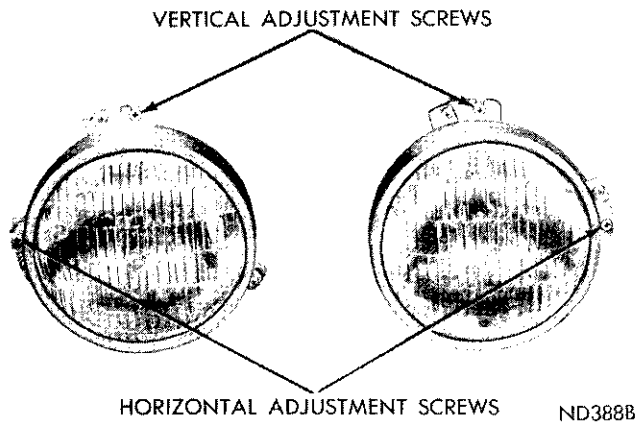

Fig. 5—Headlight Adjusting Points
- (2) While sighting through viewing port of aimer, turn horizontal adjusting screw on headlight until split target image line merges into one unbroken line. To remove backlash, be sure to make a final adjustment by turning headlight horizontal adjusting screw in a clockwise direction (Fig. 5).
- (3) Make horizontal adjustment on other side of vehicle in same manner.
zontal adjustment. (See Fig. 5).